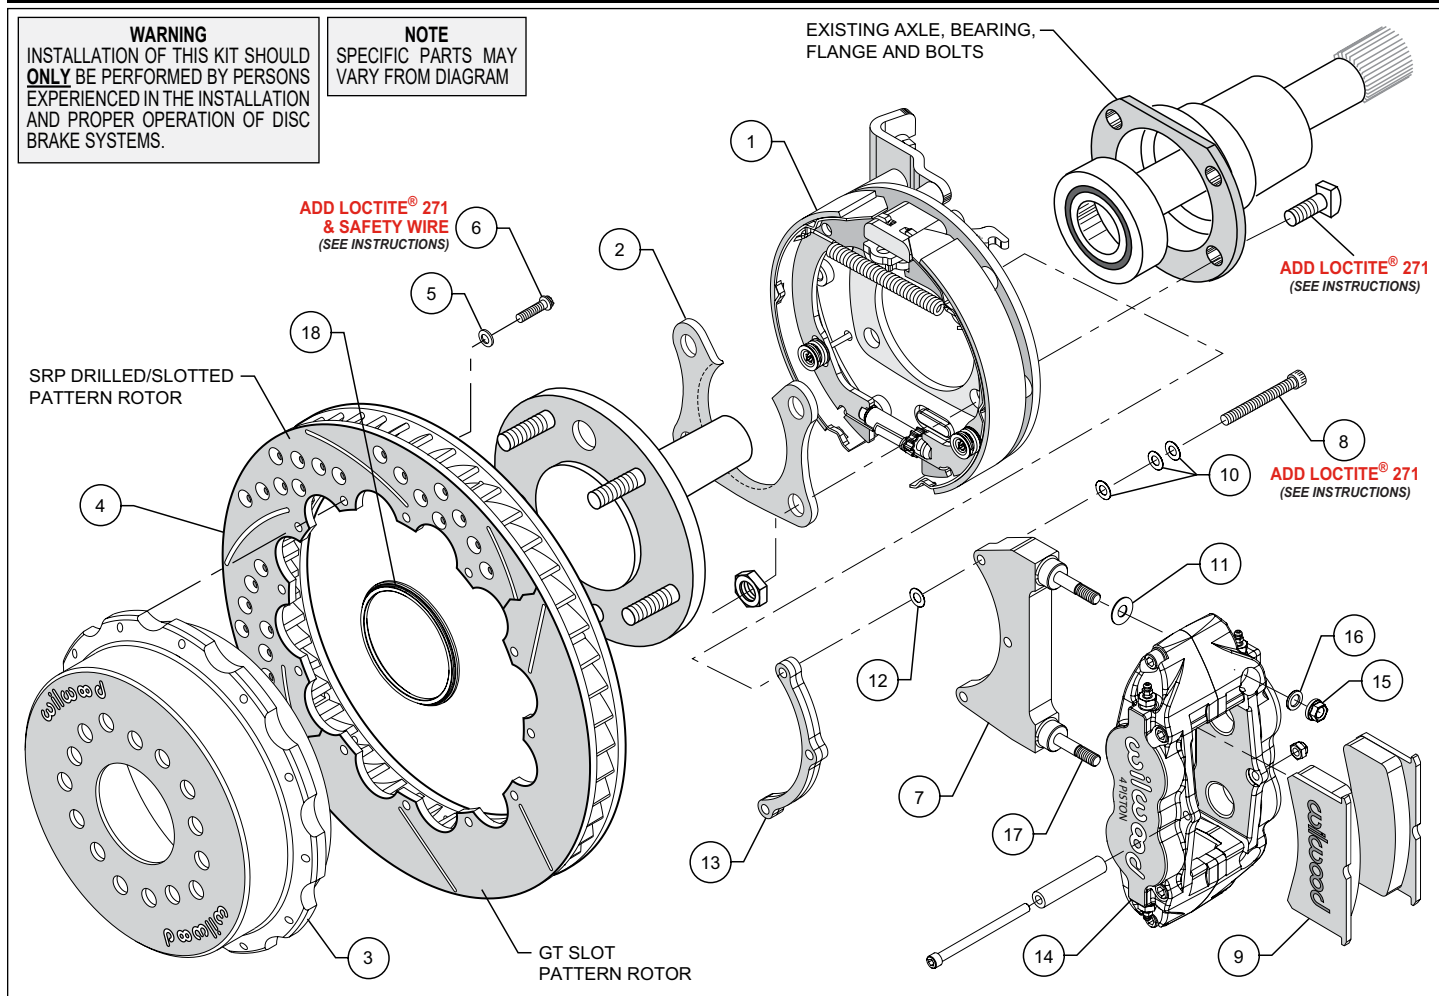

Figure 1. Typical Installation Configuration
- Slide the bracket kit assembly (1) onto the housing flange and then insert the axle assembly through the center hole of the bracket kit assembly (1). Align the bearing retainer (2), as shown in Figures 1 and 4, and secure using the stock Original Equipment Manufacturer (OEM) bolts and nuts. Stock OEM hex nuts that retain the bracket kit assembly (1) and retainer (2) should be on the wheel side of the bracket. Apply red *Loctite*® 271 to the stock OEM bolt threads and torque to OEM specifications. Make sure the bracket kit assembly (1) brake pads are FACING OUTWARD TOWARDS THE WHEEL.
• **NOTE:** Please reference the caution statement at the beginning of the assembly instructions. The caliper mounting bracket assembly (7) should be installed first with clean, dry threads on the mounting bolts (8). Install the bracket from the rear side of the bracket kit assembly (1) by sliding bolt (8) through three flat washers (10), bracket (7), shim washer (12) and finally through the spacer (13), see Figure 1. **NOTE:** End of bolt should not exceed inside face of insert. The bracket must tighten squarely against the back side of the bracket kit assembly (1). Inspect for interference from casting irregularities, machining ridges, burrs, etc. Use one thin shim (12) between the bracket (7) and spacer (13) during initial trial fitting.
• Install one shim (11) over each pre-installed stud (17) on the radial mount bracket (7). Slide the caliper (14) in place over the studs and rotor, then install the washer (16) and lock nut (15) to hold the caliper in place. Snug the lock nuts (15) and check that the rotor (4) is centered in the caliper (14). Add or subtract .015" shims (12) as necessary between the caliper mounting bracket (7) and the spacer (13) to center the caliper (14).
• Remove the caliper center bridge pad retainer bolt, nut, and tube from the caliper. Slide the brake pads (9) into place. They should install easily without interference. Check that the outside radius of the brake pad is aligned with the outside diameter radius of the rotor face. Add or subtract shims (11) between the caliper (14) and mount bracket (7) to gain the proper alignment. Reinstall the center bridge pad retainer tube, bolt, and locknut. The locknut should be snug without play in the bolt or tube. Be cautious not to over tighten.
• Adjust the parking brake shoes outward (using a drum shoe adjustment tool available at your local auto parts store) while spinning the hat (3) until a slight drag is felt against the hat/drum. Remove the lug nuts that were holding the hat/rotor in place. Install the wheel and lug nuts. Check to see that the wheel rotates freely without interference.
• Once all clearances have been checked, remove the wheel, caliper, hat/rotor from the bracket kit assembly (1). Secure the caliper mounting bracket (7) to the bracket kit assembly (1) using red *Loctite*® 271. Torque bolts (8) to 180 in-lb. Reinstall the hat/rotor assembly and again use lug nuts to hold it in place. Reinstall the caliper and torque the caliper nuts (15) to 30 ft-lb.
• **NOTE:** Clevis and cable kits which attach to the parking brake assembly are not included in the Wilwood parking brake kit. Wilwood offers a generic style parking brake cable kit, P/N 330-9371 for this application which can be ordered separately from your local Wilwood dealer or by calling Wilwood customer service at (805) 388-1188.